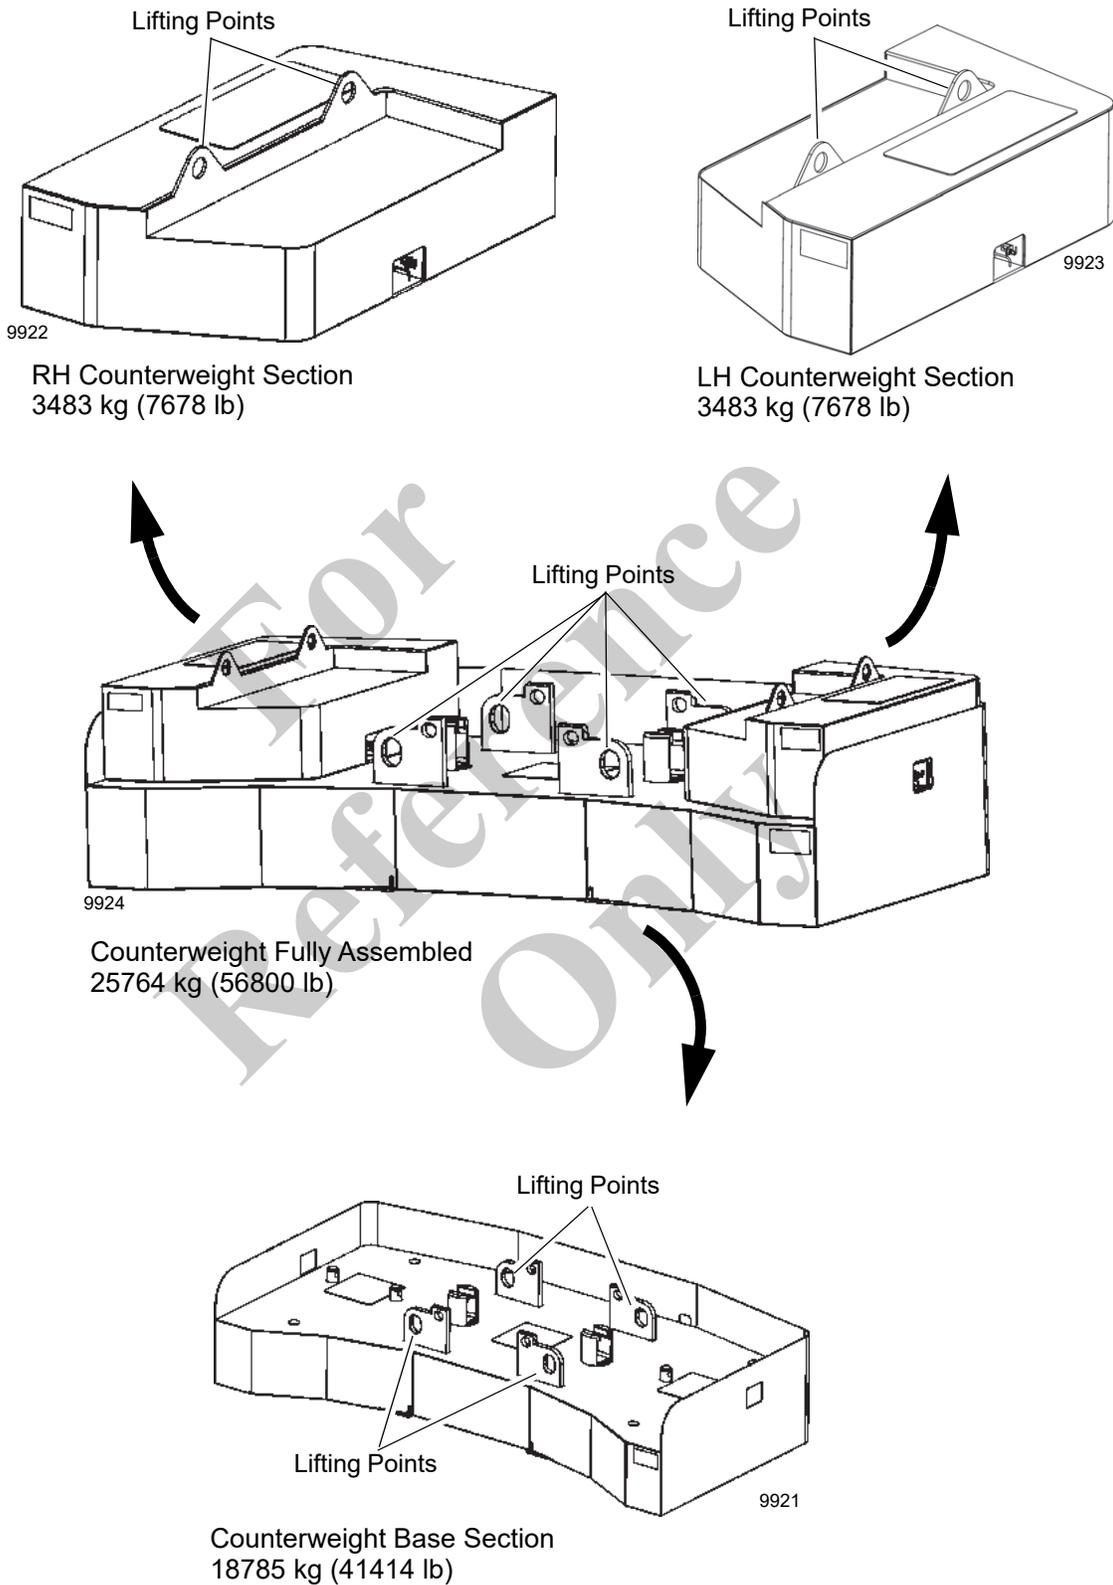

FIGURE 5-12
Figure 5-12 shows the assembled counterweight and component sections. The counterweight can be removed from the crane and disassembled for transport. The counterweight must be assembled and installed on the superstructure for lifting operations. The counterweight is not required when installing and removing the counterweight and outrigger boxes from the crane.
Figure 5-12 shows the lift points for the counterweight and sections. Attach the slings to the points identified when lifting the counterweight and sections.
1. Attach lift slings to the lifting points on the Right Hand (RH) counterweight section (Figure 5-12).
3. To secure the RH counterweight section (1) on the base section (2), extend the counterweight section locking pins (4) in to the mounting posts (3) in two places as follows:
- a. Turn and pull the spring-loaded pin (5) to unlock the pin (4) handle.
- b. Rotate the pin (4) handle clockwise so it rests on the rod (6). This extends the locking pin (4) in to the mounting post (3).
- c. Release the spring-loaded pin (5) to secure the pin (4) handle.
4. Attach lift slings to the lifting points on the Left Hand (LH) counterweight section (Figure 5-12).
5. Install the Left Hand (LH) counterweight section (7) on to the base section (2). Make sure the LH section (7) is seated on the base section mounting posts (3).
6. To secure the LH counterweight section (7) on the base section (2), extend the counterweight section locking pins (4) in to the mounting posts (3) in two places as described in step 3.
- b. Rotate the pin (4) handle counterclockwise to retract the pin from the mounting posts (3).
- c. Release the spring-loaded pin (5).
3. Attach a suitable lifting device to the LH counterweight lifting points (Figure 5-12) and remove the section (7, Figure 5-13) from the base section (2).
4. Retract the locking pins (4) from the RH counterweight section (1) in two places as described in step 2.
5. Attach a suitable lifting device to the RH counterweight lifting points (Figure 5-12). Remove the section (1, Figure 5-13) from the base section (2).
2. Attach lifting sling to lifting points (Figure 5-12).